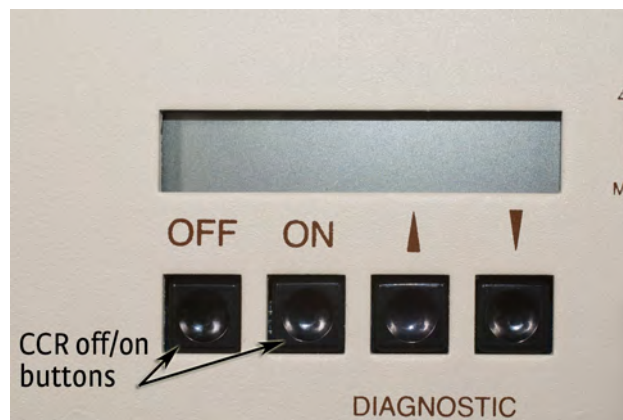

FIGURE 4-12 CCR off/on buttons
2. Press the CCR **ON** button. (FIGURE 4-12).
4. Press the CCR OFF button (FIGURE 4-12).